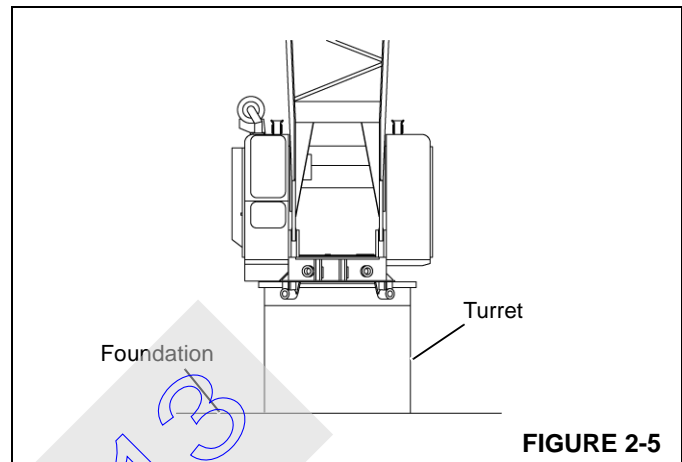

FIGURE 2-5
1. Crane rotating bed mounted on a turret (pedestal) which is securely fastened to the foundation (Figure 2-5).